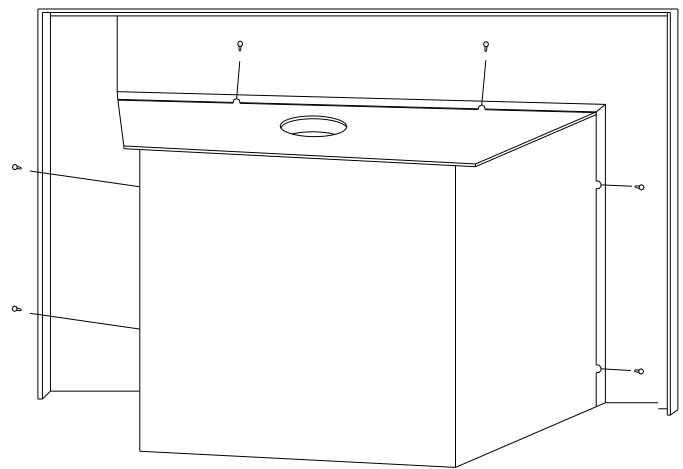

FIGURE 3
(B) Mount the side trim panels with the mounting screws, provided. (FIGURE 3)